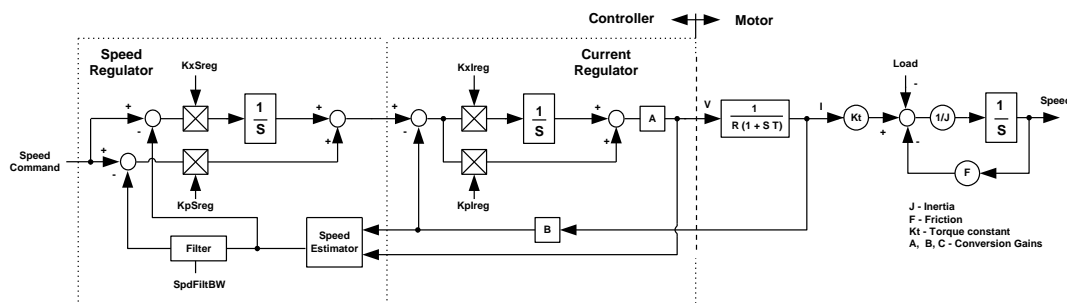
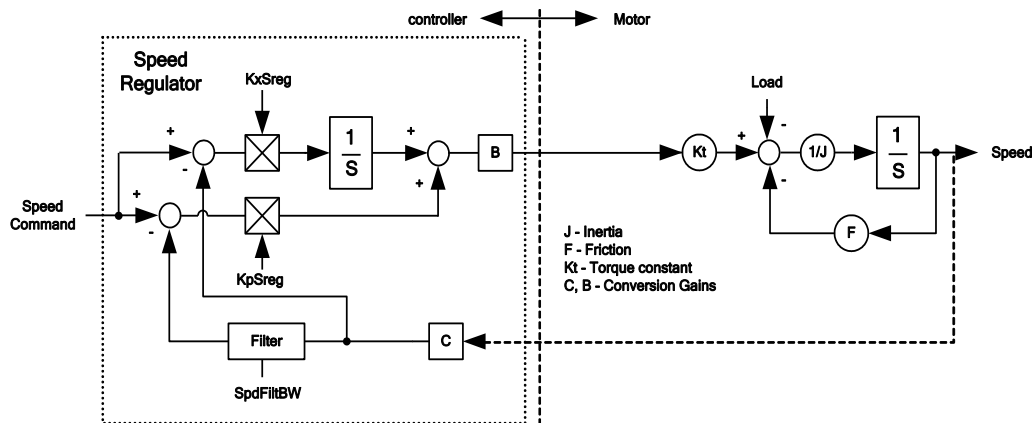

Figure 21—Cascaded Control Dynamical Model
Figure 22—Simplified Speed Control Loop Dynamics
After tuning the current controller, proceed to tuning the speed controller. The speed controller is the most outer-loop controller in the cascaded speed drive system, so the inner loop must be tuned first. Figure 21 shows the cascaded control dynamics of the speed control loop. In practice, the inner current loop has a much higher control bandwidth than the speed controller; therefore for speed control dynamic purposes, the inner current loop can be ignored as shown in Figure 22. Parameter M (Figure 22) relates the command current digital counts to the actual current in Amps. The motor mechanical dynamic is a first order function with mechanical time constant equal to J/F (Inertia/Friction). The pole-zero cancellation technique (outlined in Section 2.3.4.1) can be used to simplify tuning of the speed controller proportional and integral gains (K_{pSreg} , K_{xSreg}). In practice, information on mechanical friction (F) is difficult to obtain, therefore it is not modeled here. In addition, a temperature dependent friction characteristic is present in some applications. Therefore, manual speed tuning may be required to achieve optimal speed response. Some applications cannot tolerate high speed regulator bandwidth due to mechanical resonances present in the mechanical system.